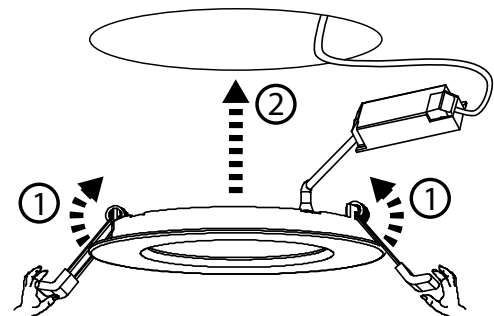

fig. 3
3. Tension the springs of the recessed downlight ① and insert it into the prepared ceiling cut-out ② (fig. 3).